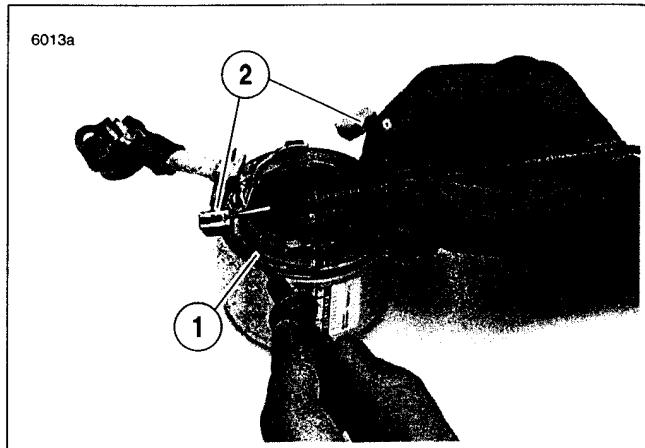
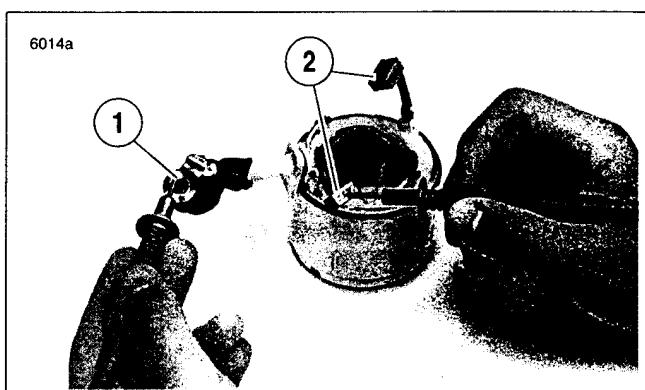
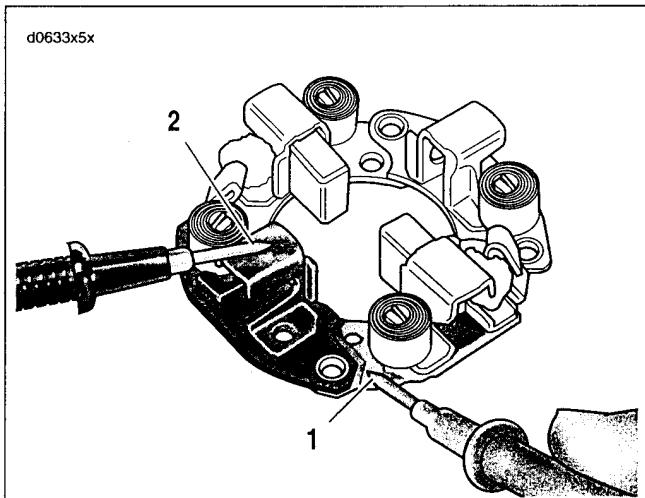

Figure 5-19. Grounded Field Test
Figure 5-20. Open Field Test
Figure 5-21. Brush Holder Insulation Test
13. See Figure 5-19. Check for GROUNDED FIELD COIL with an ohmmeter or continuity tester.
- Touch one probe to the frame (1).
- Touch the other probe to each of the brushes (2) attached to the field coil.
14. See Figure 5-20. Check for OPEN FIELD COILS with an ohmmeter or continuity tester.
- Touch one probe to the field wire (1).
- Touch the other probe to each of the brushes attached to the field coil(s) (2).
15. See Figure 5-21. Test BRUSH HOLDER INSULATION with an ohmmeter or continuity tester.
- Touch one probe to holder plate (1).
- Touch the other probe to each of the positive (insulated) brush holders (2).